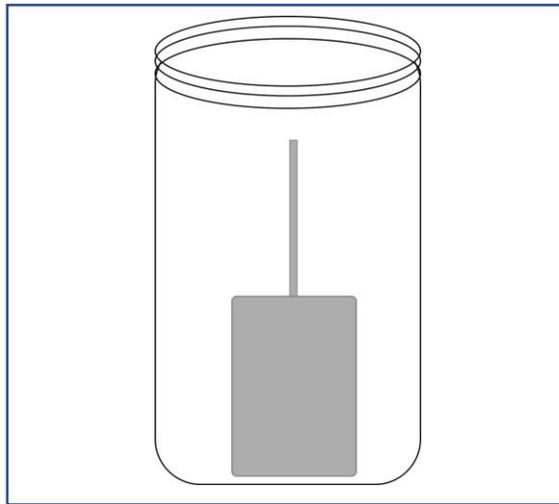

Figure 1 – Position of data logger in jar
- Put data logger in a warm pint jar (**Fig. 1**)